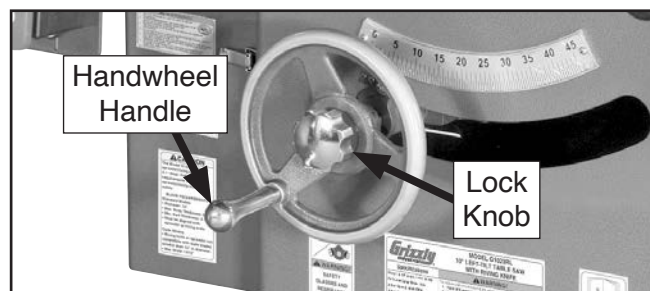

Figure 26. Lock knobs and handles installed.
15. Thread lock knob into center of handwheel and tighten, then install handwheel handle (see **Figure 26**).
16. Install remaining handwheel, lock knob, and handwheel handle (see **Figure 26**) in same manner.